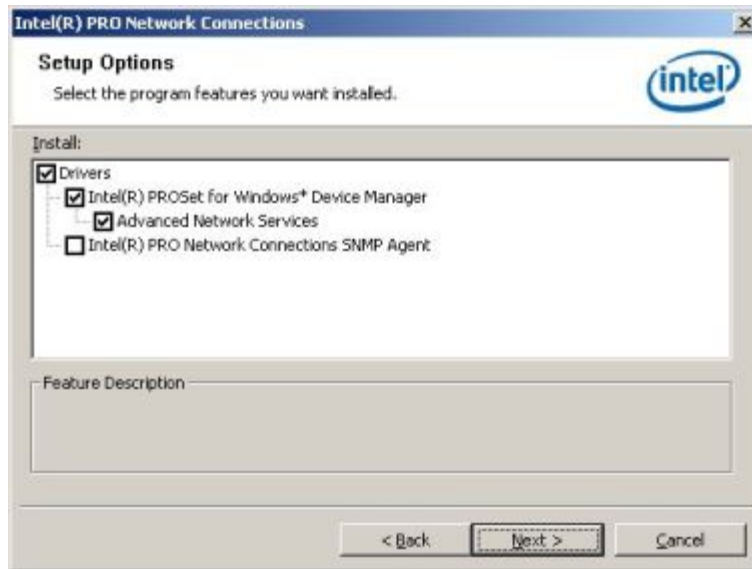

Figure 7-26: Intel® 82566DM Driver Setup Options
Step 17: The **Setup Options** screen in **Figure 7-26** appears next.
Step 18: Select the required installation configuration in **Figure 7-26** and click **NEXT** to continue.